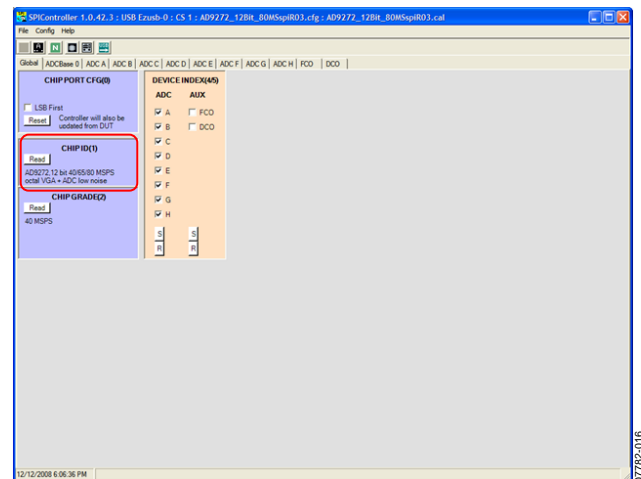

Figure 8. SPI Controller, CHIP ID(1) Box
1. Open the SPI Controller software by going to the **Start** menu or double-clicking the SPI Controller software desktop icon. If prompted for a configuration file, select the appropriate one. If not, check the title bar of the window to determine which configuration is loaded. If necessary, choose **Cfg Open** from the **File** menu and select the appropriate one. Note that the **CHIP ID(1)** field should be filled to indicate whether the correct SPI Controller configuration file is loaded or not (see Figure 8).